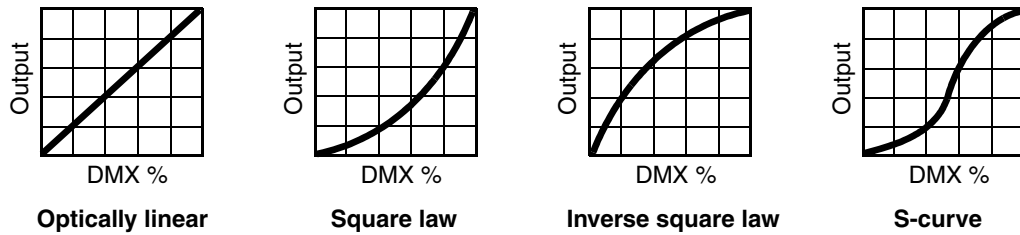

Figure 4: Dimming curve options
**DIMMER CURVE** provides four dimming options (see Figure 4):